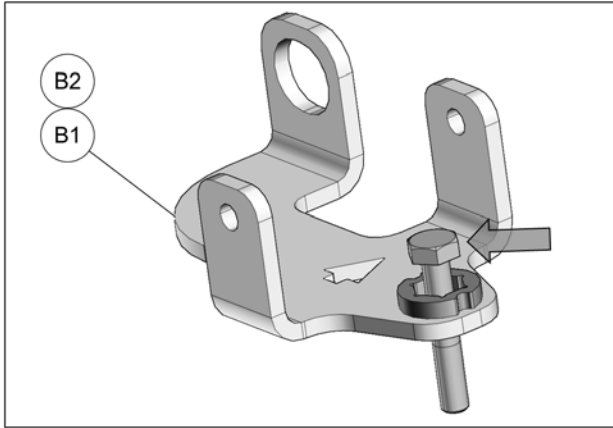

Fig. 4
4. Insert bolt in rear brackets (**B1-B2**) as shown in Fig. 4